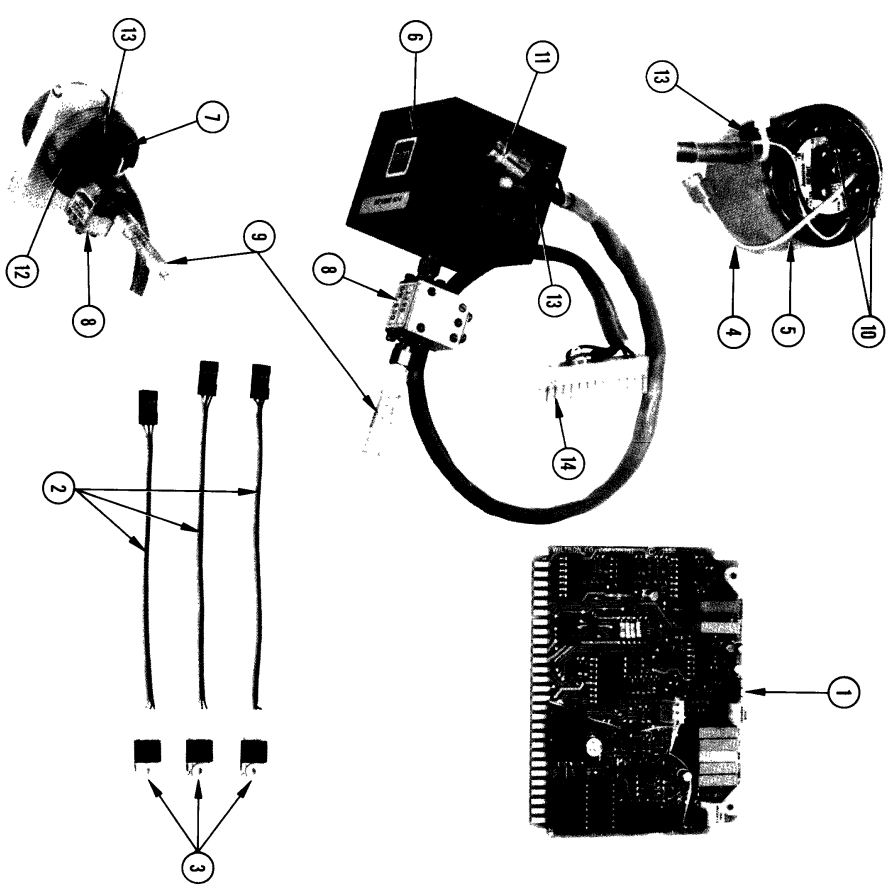

Figure 6-3. Oscillator Assembly,
d. YIG Osc. P/N 1005-13 (SPEC-A-11019)	Figure 6-3
(See Figure 6-3 for next higher assembly)